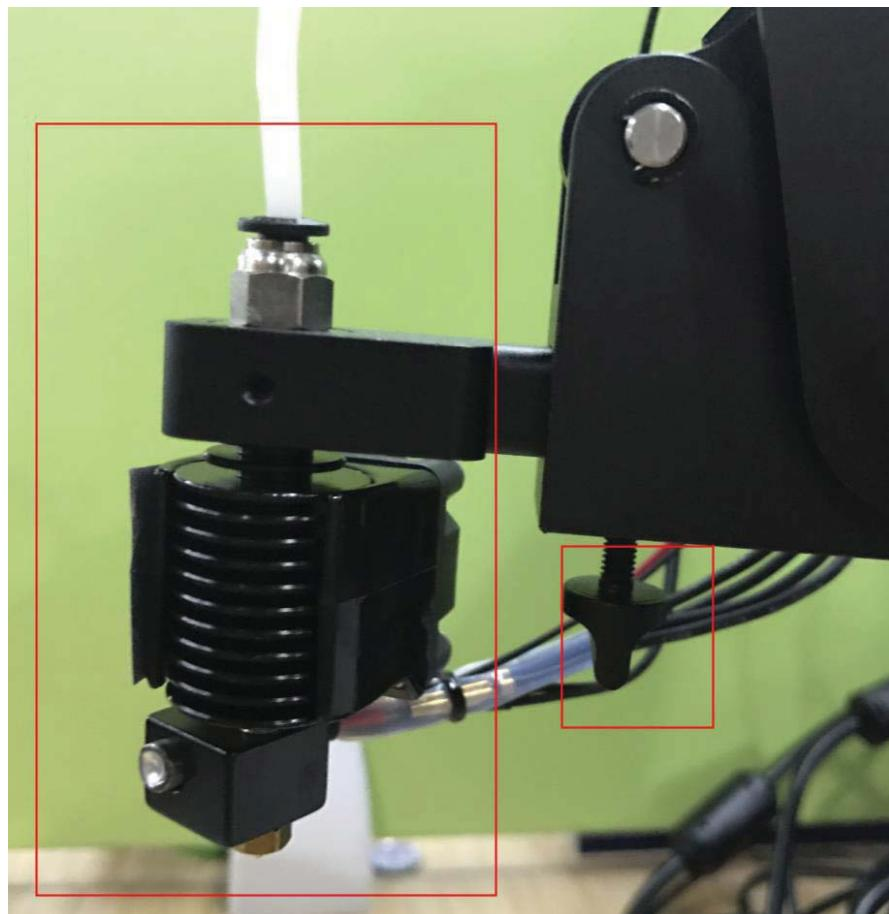

Figure 5.120 Fix hot end
**Step 4** Fix the hot end on the Dobot Magician with butterfly nut, as shown in Figure 5.120.